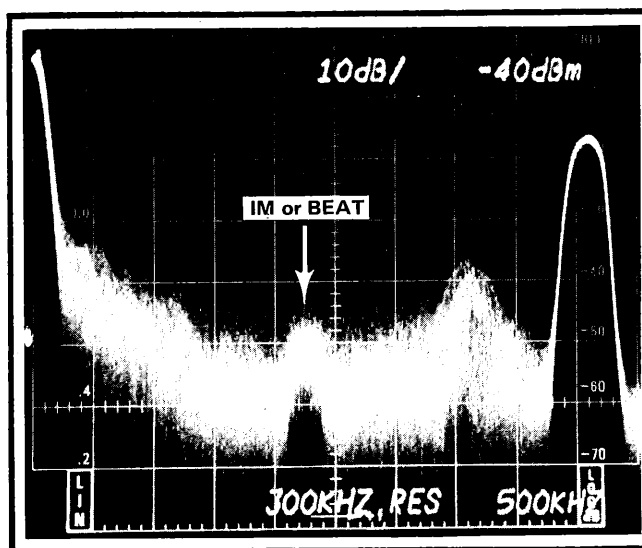

Fig. 2-2. Display showing intermodulation above the picture carrier.
e. Check the display for IM products above and below the picture carrier by tuning slowly either side of the carrier signal or switch the center frequency from Center to Start position. Once a beat is located, compare the peak video carrier level to the peak intermodulation (beat) signal level. See Fig. 2-2.